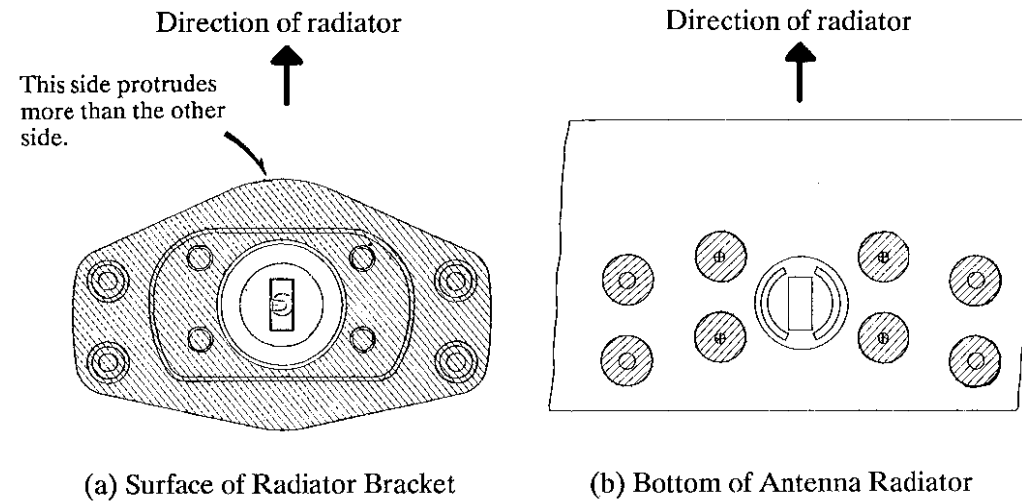

Fig.6-4 Application of Silicone Sealant
2. Apply silicone sealant to the hatched area shown in Fig.6-4, i.e., on the surface of the radiator bracket and at the bottom of the antenna radiator.